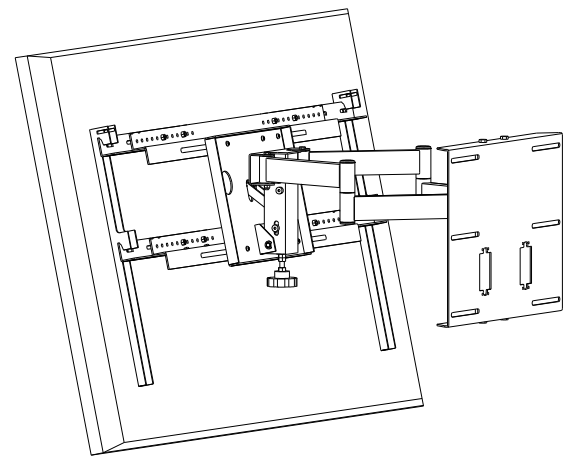

Figure 6
11. Hang the plasma unit on the wall mount making sure the top and bottom notches on each Hanging Bracket are placed over the upper and lower Zee-Bars. See Figure 6.